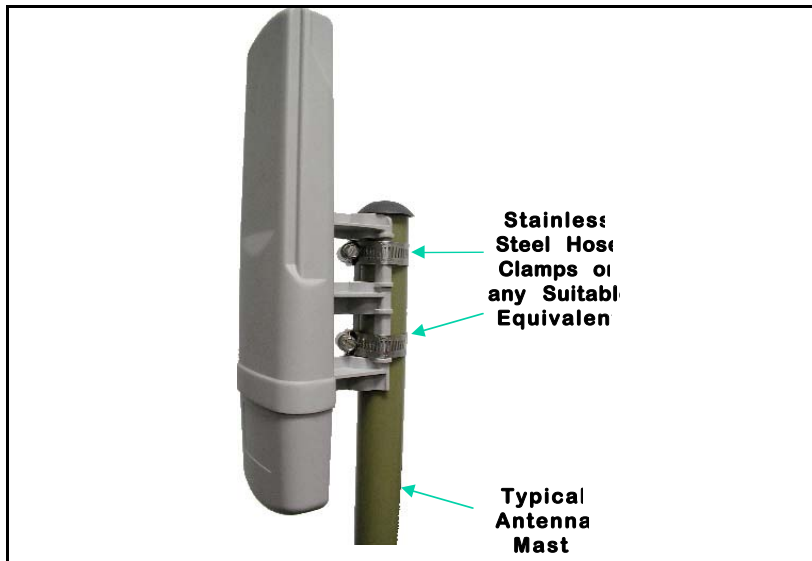

FIGURE 3
- The Canopy module should be mounted vertically as shown in FIGURE 3. All Canopy modules' antennas are vertically polarized in this direction.
- Illustrated in FIGURE 3 is an example of mounting the unit to an antenna mast. Stainless steel hose-clamps, or any suitable outdoor equivalent, may be used to secure the unit to the mast.